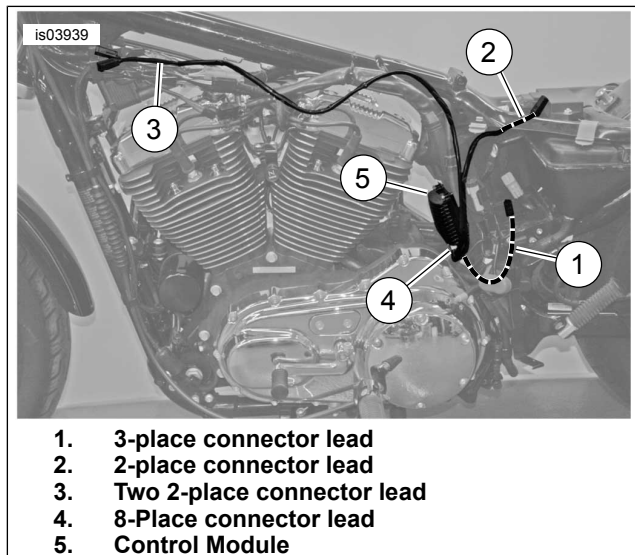
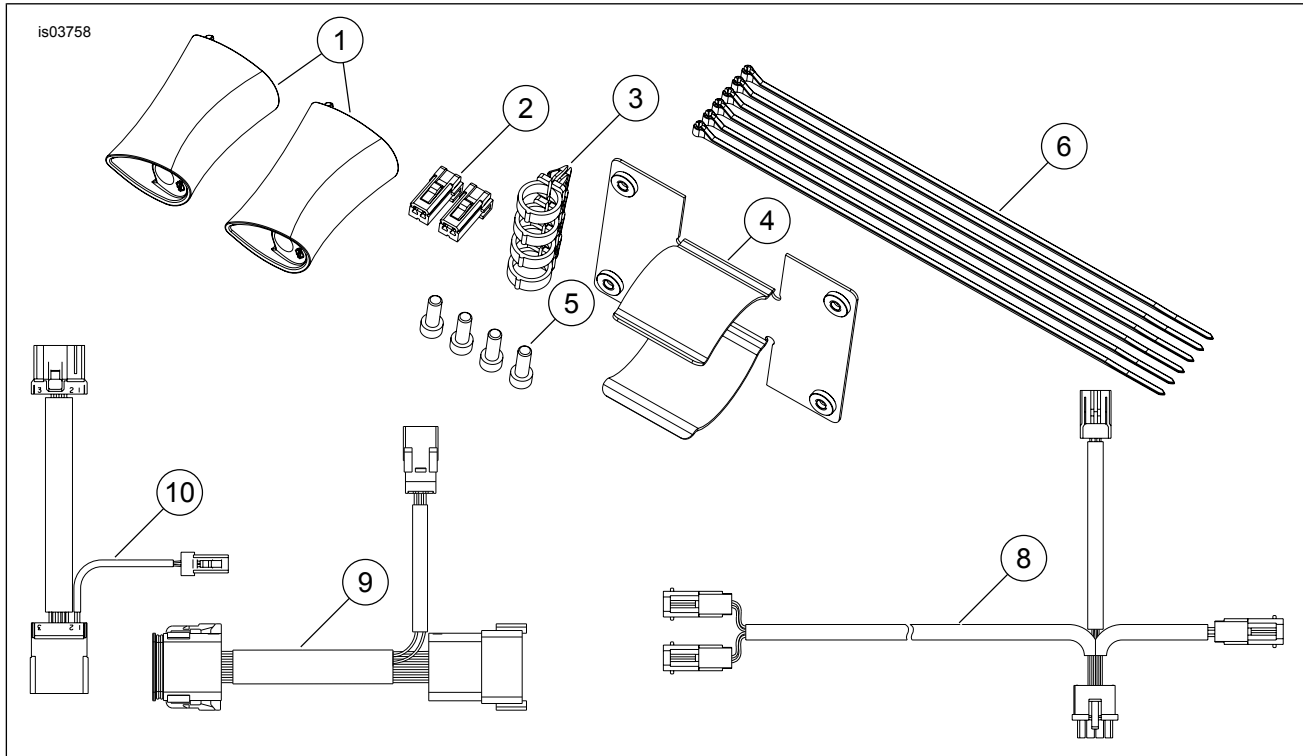

Figure 1. Control Module Harness Routing
Figure 8. Service Parts for Mounting Kit for International Mini-Bullet Style LED Turn Signals (69590-07)
See Figure 8 and Table 1.
1. See Figure 1. Route the Control Module harness (Figure 8, Item 8) as shown. Start from where the 8-place Control Module connector will be located (4).
- a. Route the 3-place connector (1) under the seat post of the frame towards the rear of the motorcycle near the position of the TSM/TSSM connection.
- b. Route the 2-place connector (2) up to the seat area near where the right rear corner of the battery is located.
- c. Route the two 2-place front turn signal connectors (3) up along the seat post and then forward along the backbone of the frame to fuel tank mounting location.
- See Figure 4. Connect the rear interconnect harness (Figure 8, Item 10), included in the kit, to the rear harness connector [7B] (3), main harness connector [7A] (1) and 2-place Control Module harness connector (2).
- See Figure 5. Connect TSM/TSSM interconnect harness (Figure 8, Item 9) to the main harness connector [30B] (3) and 3-place Control Module harness connector, then install the TSM/TSSM interconnect harness (2) male connector to the TSM/TSSM [30A] (1).
2. Install turn signal ball stud into the lever bracket, position the turn signal as desired and secure with stock set screw (1). Tighten set screw to 10.8–13.6 N·m (96–120 in-lbs).
3. Route the turn signal wires in the same manner as the stock turn signal wires and secure with four new wire harness retainers (Figure 8, Item 3) from the kit.